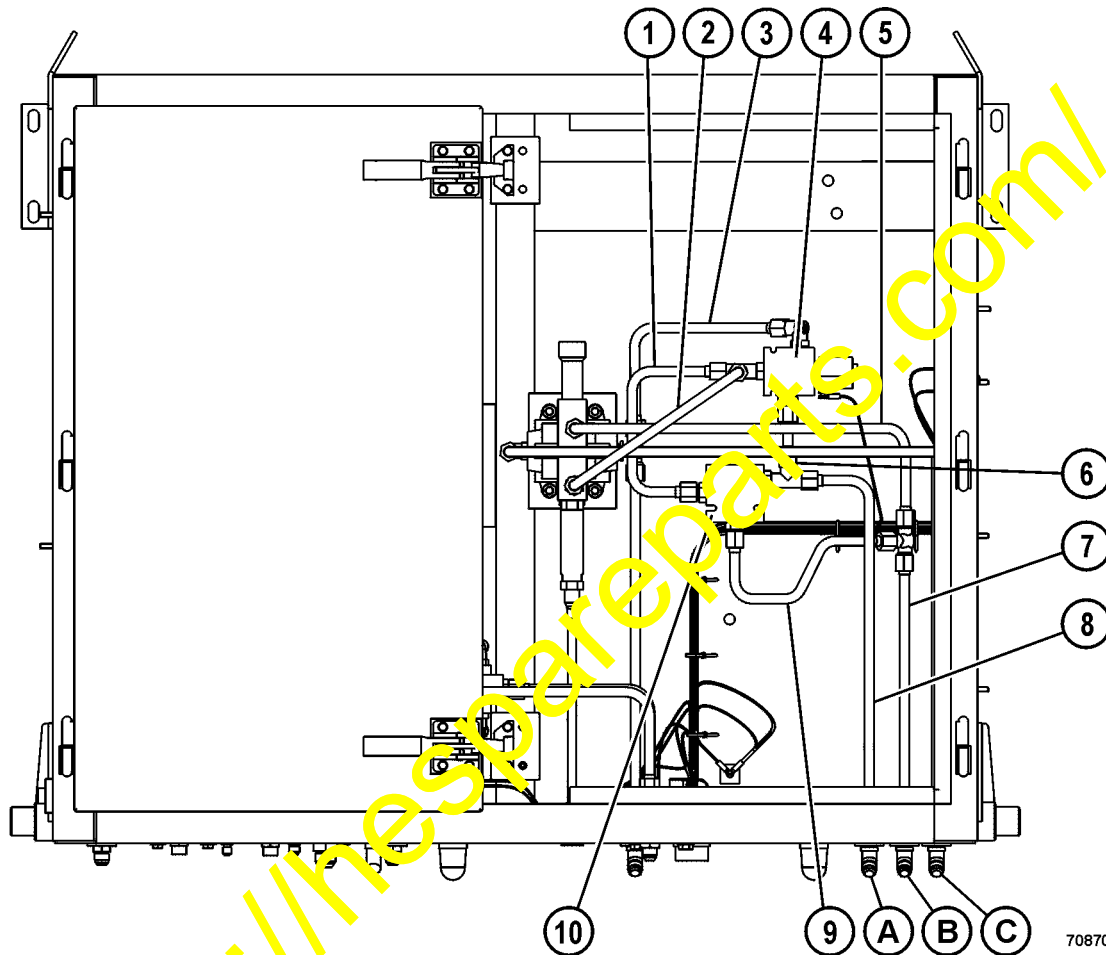

FIGURE 1. TYPICAL HYDRAULIC COMPONENTS CABINET WITH STEEL TUBES
Hydraulic leaks have occurred in the steel tubes (near the tube fitting) that are used in the hoist pilot circuit in the hydraulic components cabinet due to vibration or improper fit up. To improve truck availability, install Hoist Pilot Manifold Kit (XK0141). This kit replaces the solenoid valve and check valve with one hoist pilot manifold (1, Figure 1) and the eight steel tubes are replaced with three hoses.
3. Remove all ten items referenced in Figure 1. Mark and disconnect two hoses at locations (A & B, Figure 1). Cap the end of the hoses to prevent contaminants from entering the hoses.
6. Attach the wire that was connected to solenoid valve (4, Figure 1) to the solenoid on hoist pilot manifold.